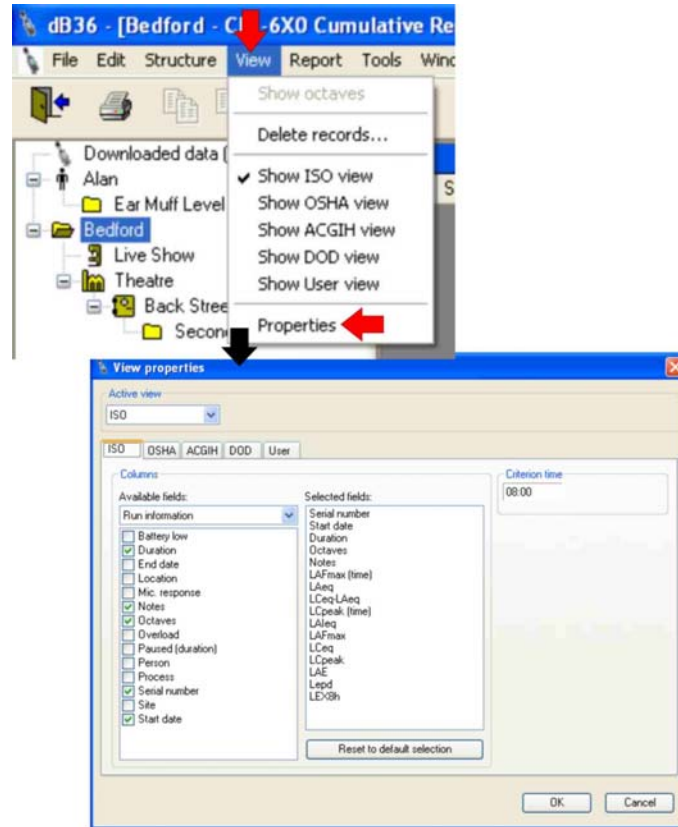

Figure 21 Customizing Cumulative Data
1. CUSTOMISING CUMULATIVE VIEW (Refer to Figure 21)